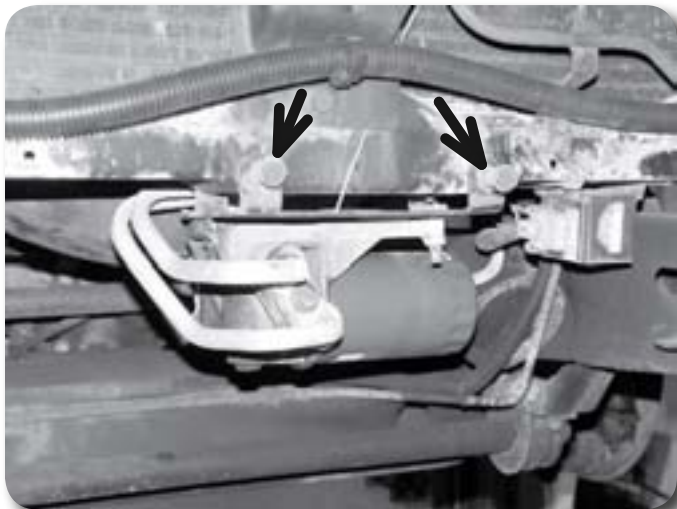

Figure 8
10. **V6 Engine Only:** Disconnect the oil filter mounting bracket from the frame by removing the two shoulder bolts **Figure 8**. Save bolts.